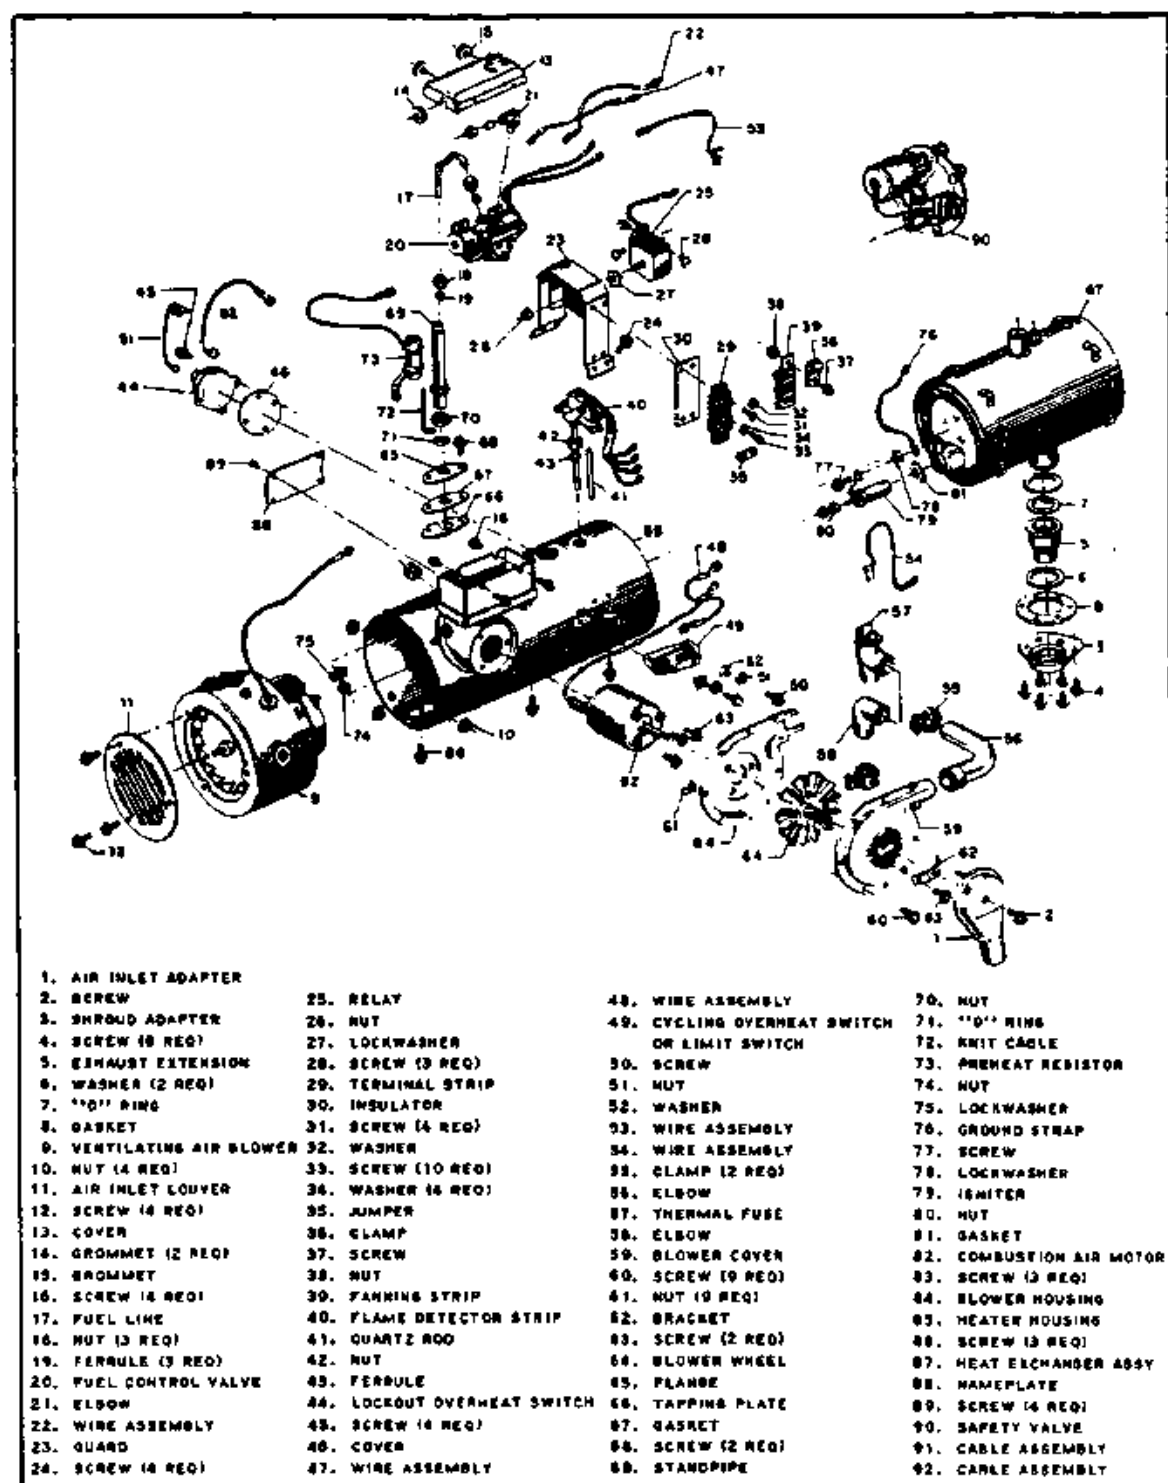

Figure 13-10. Exploded Parts View, Heater Assembly
The instructions in the following paragraphs cover all models of the 940 Series heaters. Figure 13-10 is a composite exploded parts view, showing all
#### 13-44. DISASSEMBLY. (Refer to Figure 13-10.)
- a. Remove the combustion air inlet adapter (1) by removing the sheet-metal screw (2) in its center (Refer to Figure 13-10.)
- b. Remove the shroud adapter (3) by removing the six screws (4) from the weld nuts in the heater housing.